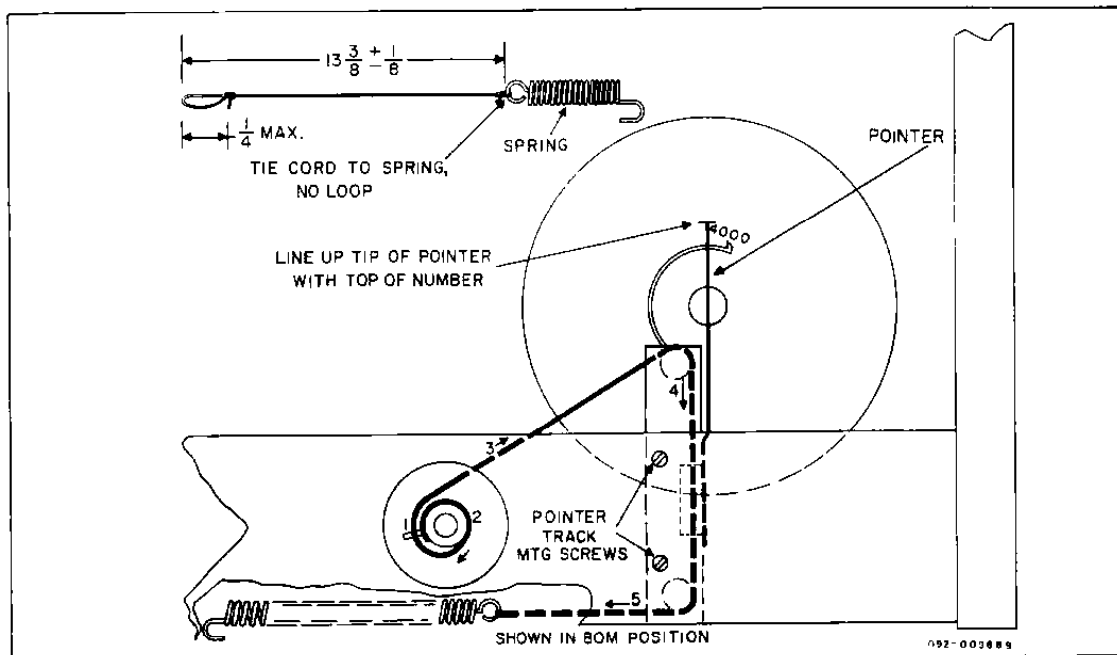

Figure 15. Dial Cord Restringing.
3. Make up dial cord as shown in figure 15.
5. Place the loop at the end of the dial cord over the pin (1) on the drum. Following the numerical sequence and
arrows as shown in figure 15, string the dial cord and anchor the spring in the chassis hole providing the required tension.